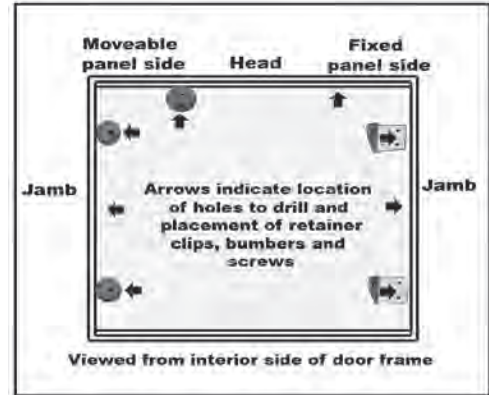
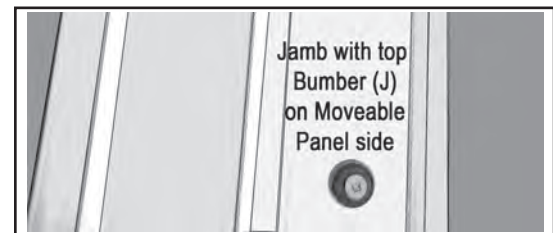

Fig. 3
Fig. 5
- 1) Pre-drill jambs with a 5/32 drill bit. (Fig. 3)
- 2) Use two #8 x 2-1/2" screws (C), painted, to secure jamb to frame opening through top hole in retainer clips (G) 6" from top and bottom. (Fig 3 and 4)
- 3) Screw two #8 x 3/4" painted screws (E) into second hole in top and bottom retaining clips.
- 4) Install one #8 x 2-1/2" screw (C) at center of jamb in the same track (Fig. 3 above)
- 1) Use one #8 x 2-1/2" screw (C) to secure frame at center of jamb.
- 2) Put two #8 x 2-1/2" screws (C) in jamb bumpers (J), and secure frame 6" from top and bottom. (Fig. 3 above and Fig. 5)
- 1) Use one #8 x 2-1/2" screw (C) to secure head approximately two inches off center in outside track in fixed panel side. (Refer to Fig. 3)
- 2) Install large security bumper (K) in inside track approximately at the center of moveable panel. Use one #8 x 1-1/4" pan head painted screw (C). (Refer to Fig. 3)